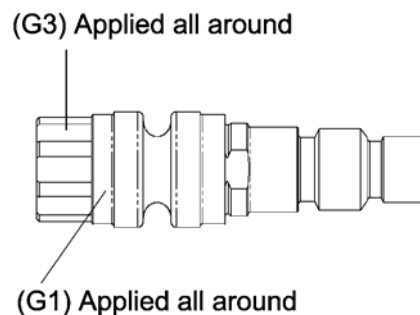

Figure 5-8 Applying Grease to Pinion
- 1) Apply (G3) grease to the cogs of (16) Pinion and (G1) grease to the part of the pinion contacting the hole of (11) Frame B as shown in Figure 5-8.